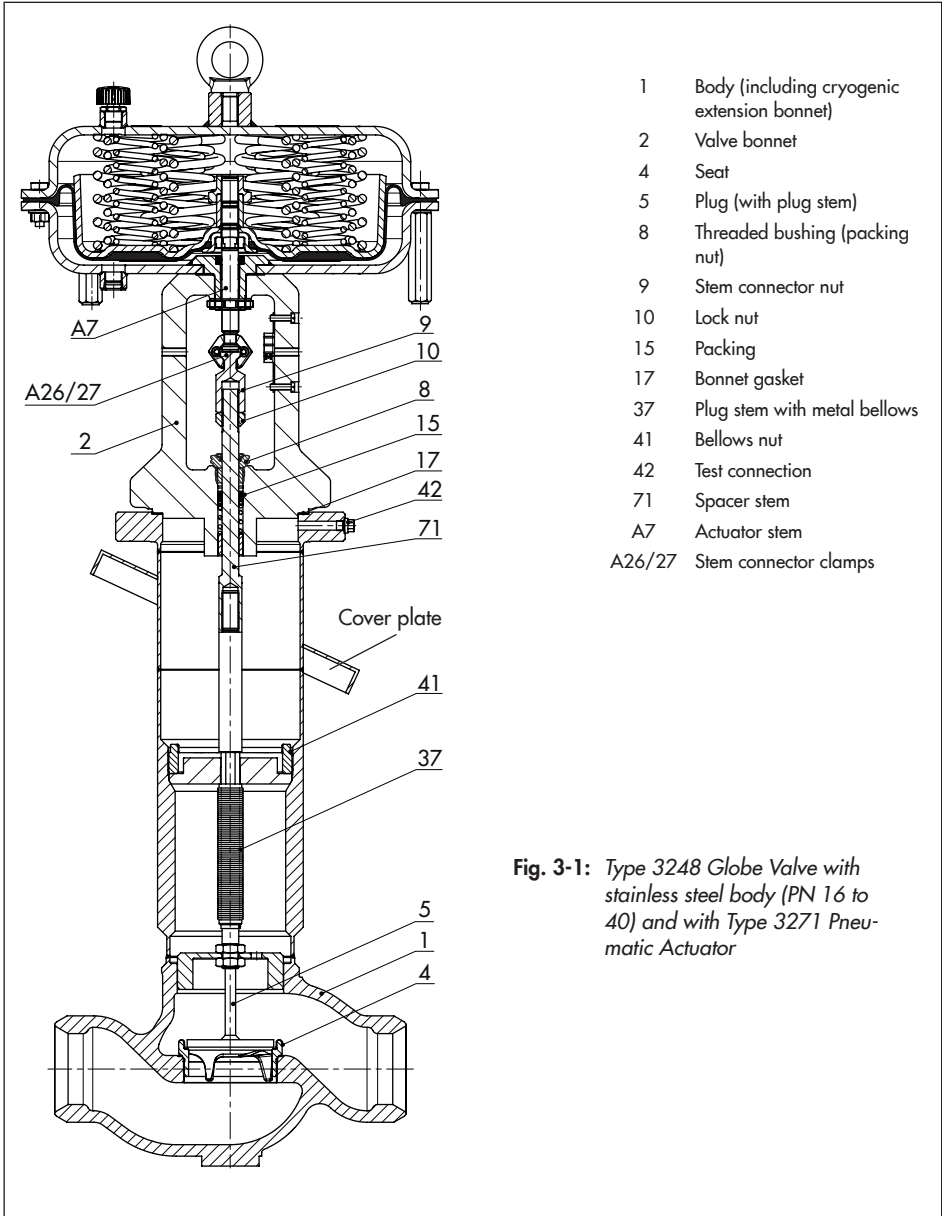

Fig. 3-1: Type 3248 Globe Valve with stainless steel body (PN 16 to 40) and with Type 3271 Pneumatic Actuator
- Globe valve with stainless steel body, DN 25 to 150, PN 16 to 100 (see Fig. 3-1)
In the PN 16 to 40 version, the valve bonnet (2) is designed as a yoke (see Fig. 3-1). In the PN 63 and 100 version, the valve bonnet (2) is designed as an intermediate piece. A yoke (3) is fastened onto the valve bonnet with a castellated nut (92) (see Fig. 3-2).